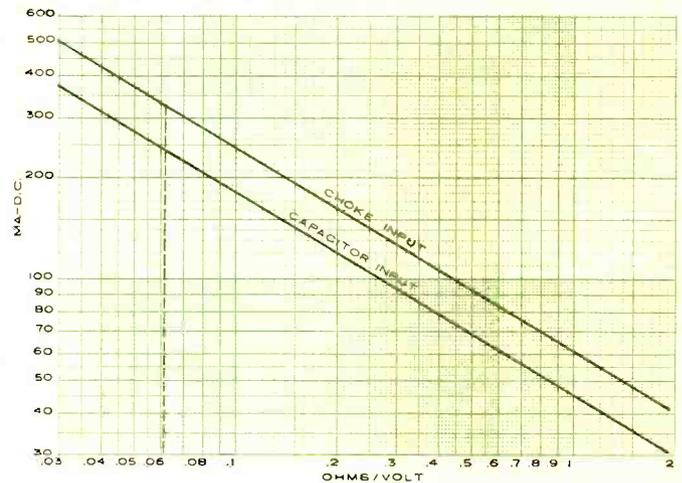

Fig. 2. Unit resistance of h.v. winding vs permissible current.
**Ohio State University Tilttable Reflector Antenna:** One method, employed at Ohio State University, uses a 260- by 100-foot tilttable, flat reflector to reflect energy from the sky onto a fixed parabolic section (see Fig. 2). The radio waves reflected from this movable reflector are focused onto a 360- by 70-foot fixed parabolic (curved) section located at the other end of a 3-acre ground plane consisting of a 0.005-inch thick aluminum sheet cemented to a concrete slab. A feed horn located on the ground plane near the base of the flat reflector receives the radio signals from the parabolic section. The output of the feed horn is coupled to a highly sensitive receiver whose output is displayed on various graphic recorders. The principle of operation is shown in Fig. 3.
To determine the maximum current that can be drawn from the high-voltage secondary as d.c. current from the filter, it is necessary to calculate the unit resistance of the high-voltage winding. Divide the measured d.c. resistance in ohms by the open-circuit or no-load a.c. voltage to get ohms/volt. Since the two halves of the high-voltage winding may be slightly different, use the total voltage and the total ohms to get an averaged value. Read on the curves of Fig. 2 the permissible d.c. current (in ma.) that can be drawn from the filter for either choke or capacitor input filter.
The curves of Fig. 2 show the relationship between the unit resistance ( $\Omega/v.$ ) of the high-voltage winding and the permissible current that may be drawn from the filter. The curves were developed by plotting data taken from transformers of several manufacturers, covering the size range of about 30 to 300 va. rating. The data plotted very well with little spread. Although permissible d.c. load current for choke input is about one-third greater than for capacitor input, the transformer load is not increased as the r.m.s. current from the transformer is less for a given d.c. load when operating into a choke input filter.
For example, take a power transformer having the d.c. resistances and high-voltage secondary open-circuit voltage shown in Fig. 1. Calculate  $ohms/volt = (22 - 23)/720 = 45/720 = 0.0625$ . From the curves of Fig. 2, read 245 ma. for a capacitor-input type filter and 325 ma. for a choke-input type filter.